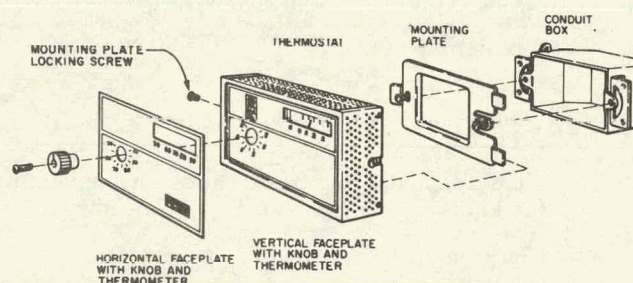

Fig. 5 — Line drawing illustrating method of mounting a vertical thermostat to a horizontal outlet box and installing a horizontal faceplate.
**Mounting:** Separable mounting plate, see Figs. 5 and 6.